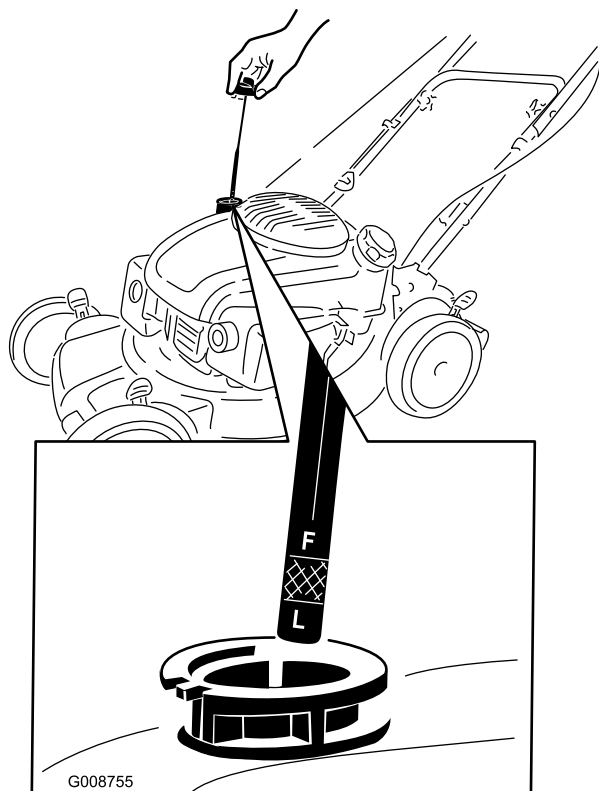

Figure 5
1. Remove the dipstick (Figure 5).
2. **Slowly** pour oil into the oil fill tube until the oil level reaches the Full line on the dipstick (Figure 5). Wait 3 minutes after adding oil to check the oil level with the dipstick. **Do not overfill.** (Max. fill: 22 oz. (0.65 l), type: 10W-30 or SAE 30 detergent oil with an API service classification of SJ or higher.)
Note: Each time you check the oil level, remove the dipstick and wipe it clean, insert it into the oil filler neck (but **do not** screw it in), then remove it again and check the level (Figure 5).